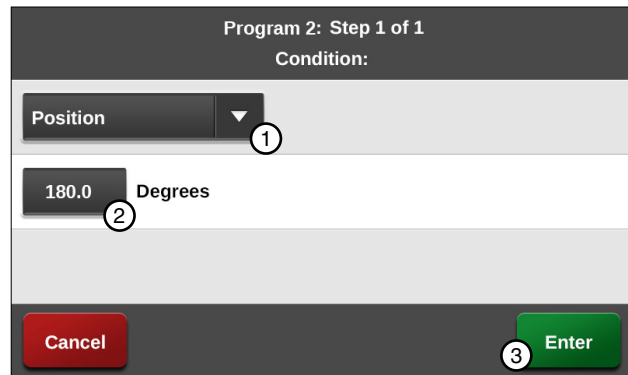

Figure 123-2 1. Position Condition 3. Enter
1. Program the position condition for this step. Refer to Figure 123-2.